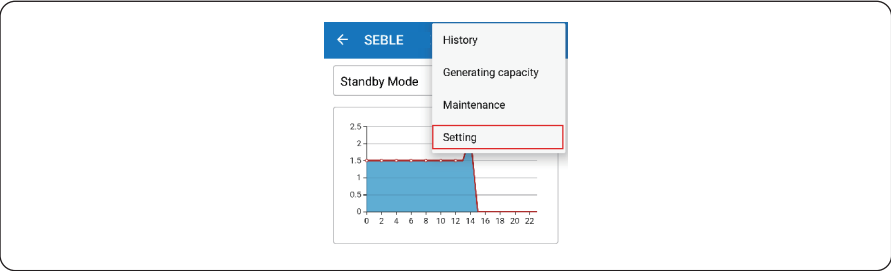

Figure 5.20 APP homepage setting
- Step 2** Click the Extension key, and select Setting in the prompt manual, as shown in Figure 5.20.